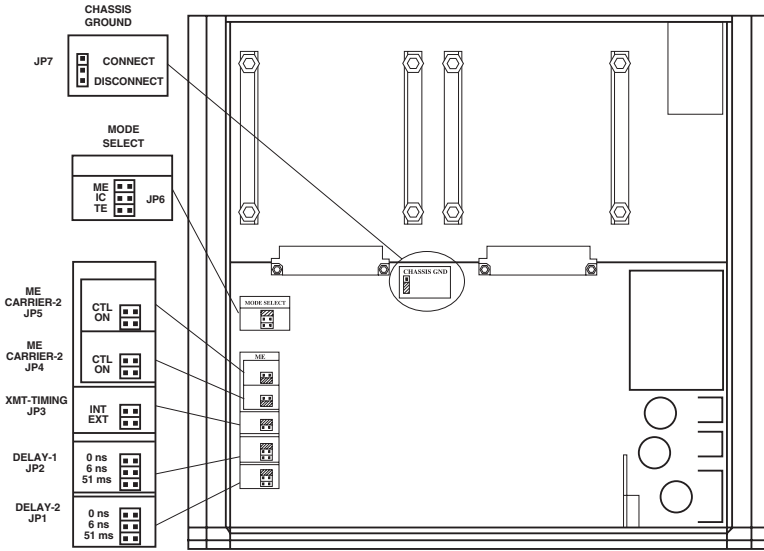

Figure 3-2. Jumpers.
Modular Modem Eliminator jumpers are identified in **Figure 3-2**.
3. Identify the jumpers according to **Figure 3-2** in **Section 3.2.3**.